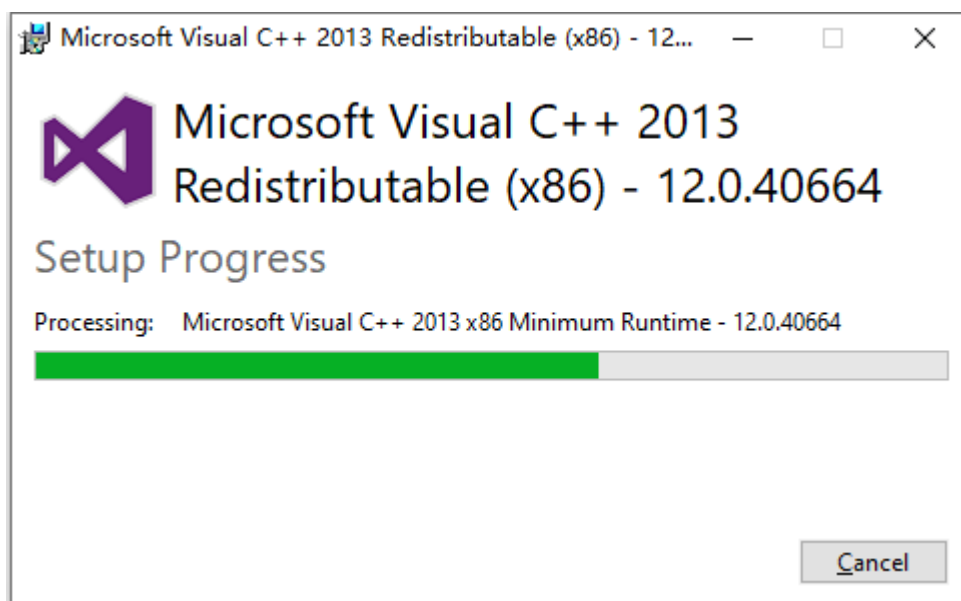

Figure 2.2-7
(9) Check "I agree to the license terms and conditions" and click Install. It can be installed. As shown in Figure 2.2-7: